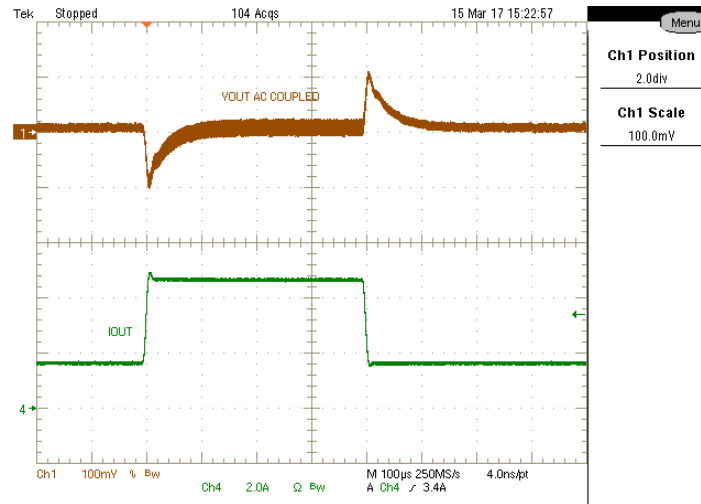

Figure 2-5. TPS54620EVM-374 Transient Response
Figure 2-5 shows the TPS54620EVM-374 response to load transients. The current step is from 25% to 75% of maximum rated load at 12 V input. Total peak-to-peak voltage variation is as shown, including ripple and noise on the output.
- Replaced Figure 2-5 8